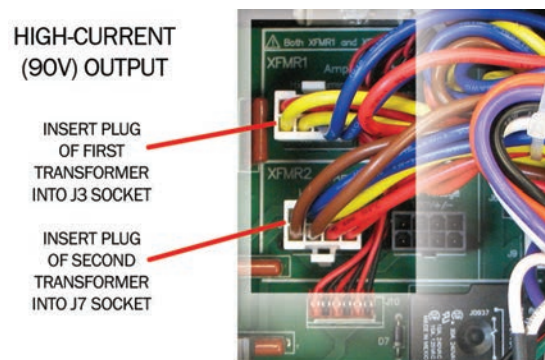

Figure 5.8 – J3 and J7 Plug Locations for High-Current Output
2. For High Current (90V) Output (see **Figure 5.8**).